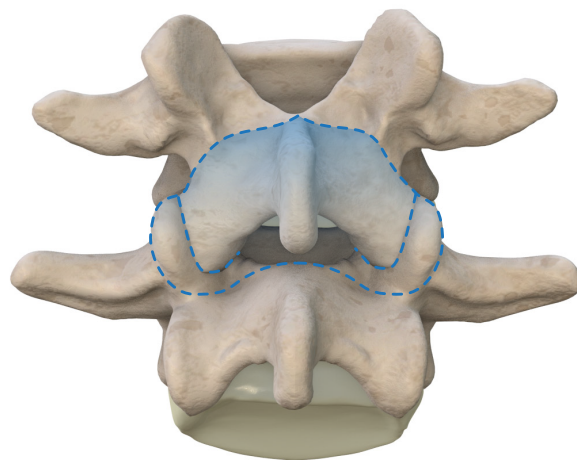

Figure 13: Breadth of Decompression
- ii. The breadth of decompression is determined by the current nerve root impingement, and any bony elements or soft tissue which could create future nerve root impingement, especially in extension. Bony resection should extend through the lateral margin of the pars interarticularis. Complete excision of the Inferior Articular Process and the Superior Articular Process should be performed as required. (Figure 13).